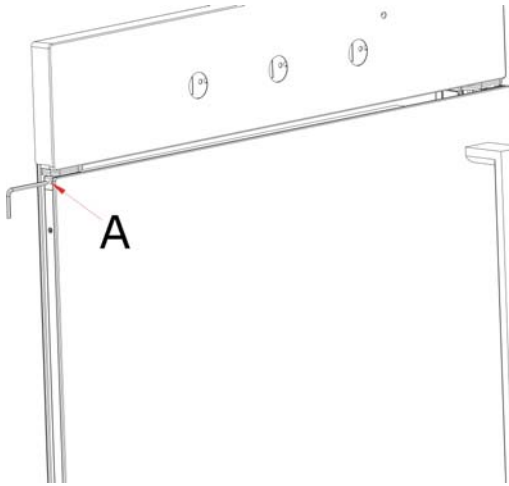
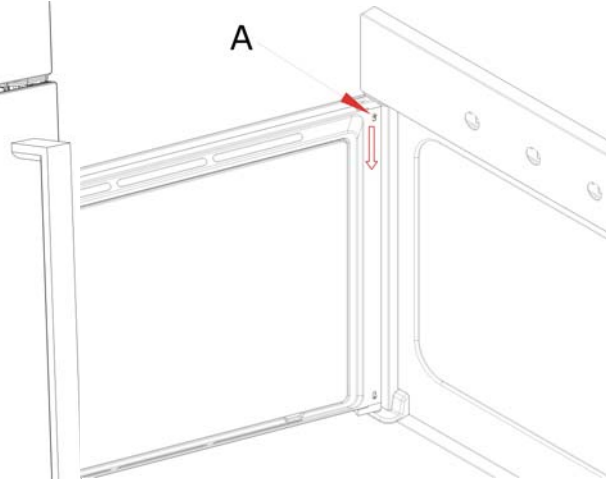

Fig.12-1
Fig.12-2
- a) by opening the door, take out the screw at position A by a screwdriver, then you can take the whole oven door separately.(fig.12-1, fig.12-2)